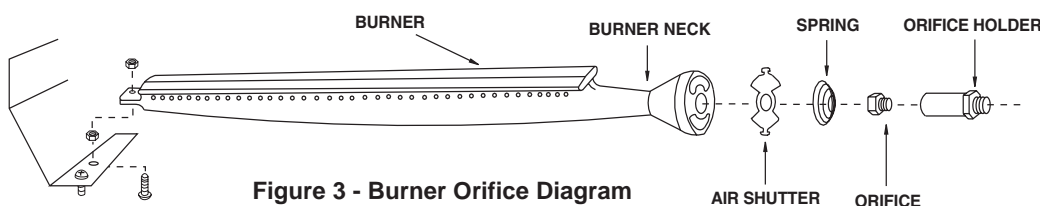

Figure 3 - Burner Orifice Diagram
a. After checking orifice drill size install the air shutter spring and the air shutter over the orifice holder fitting, between the burner and the pipe manifold, in the order and position shown in Figure 3.